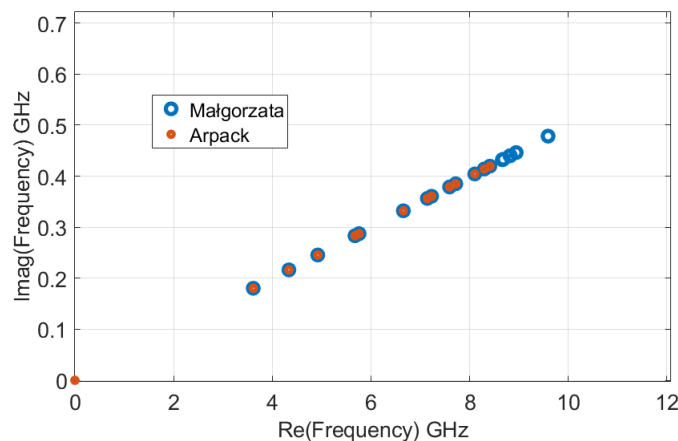

Figure 2: $\sigma = 6$ GHz
- Fig.2: Eigenvalues from Rep and computed using Arpack and SLEPC with $\sigma = 6$ GHz.